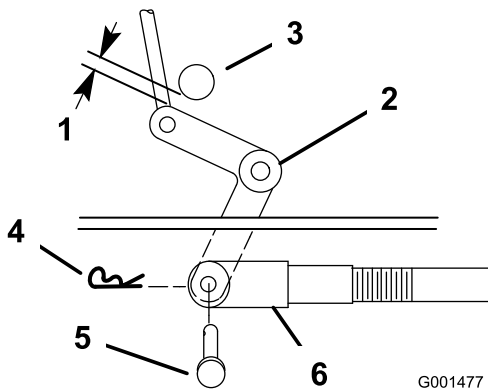
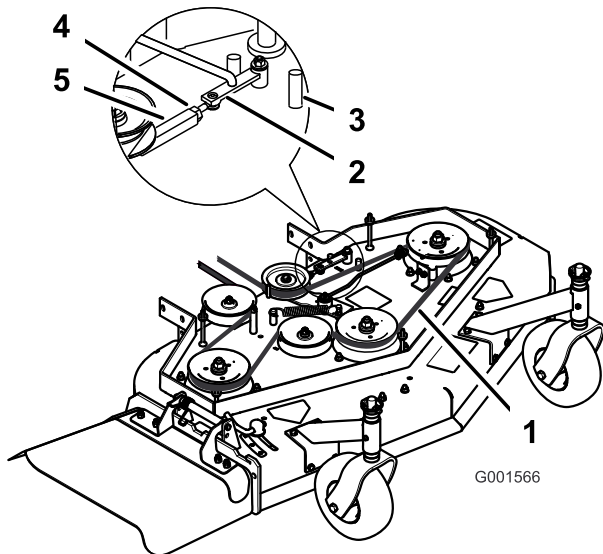

Figure 41
Figure 42
Note: The proper mower belt tension is 44 to 67 N·m (10 to 15 ft-lb) with the belt deflected 13 mm (1/2 inch) halfway between the pulleys (Figure 42).
9. Check the clearance between the bell crank and transmission-output shaft (Figure 41).
10. Remove the hairpin cotter and clevis pin from the bell crank (Figure 41).
11. Rotate the clevis clockwise on the rod to increase the clearance; rotate it counterclockwise to decrease it (Figure 41).
Note: If the assist arm does not contact the front stop on the mower deck (Figure 42), adjust the clevis to bring the bell crank closer to the transmission-output shaft (Figure 41).